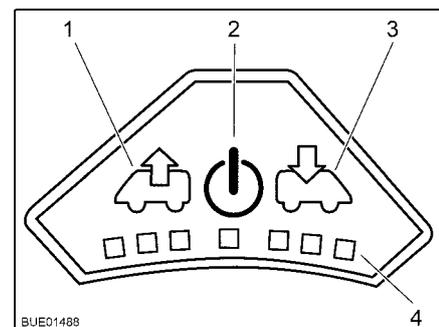

Fig. 76 Control panel for fan
- Switching on:* ■ Press the On/Off button (Fig. 76,2). The fan runs in comfort mode (venting at slowest fan speed).
- Venting:* ■ To increase the fan speed: Press the Vent button (Fig. 76,1). The fan speed in the venting direction increases by one level. LEDs (Fig. 76,4) show the operating levels.
■ To lower the fan speed: Press the Aerate button (Fig. 76,3). The fan speed decreases by one level.
- Aerating:* ■ To increase the fan speed: Press the Aerate button (Fig. 76,3). The fan speed in the aerating direction increases by one step. LEDs (Fig. 76,4) show the operating levels.
■ To lower the fan speed: Press the Vent button (Fig. 76,1). The fan speed decreases by one level.
- Switching off:* ■ Press the On/Off button (Fig. 76,2). The fan stops, the LEDs go out.